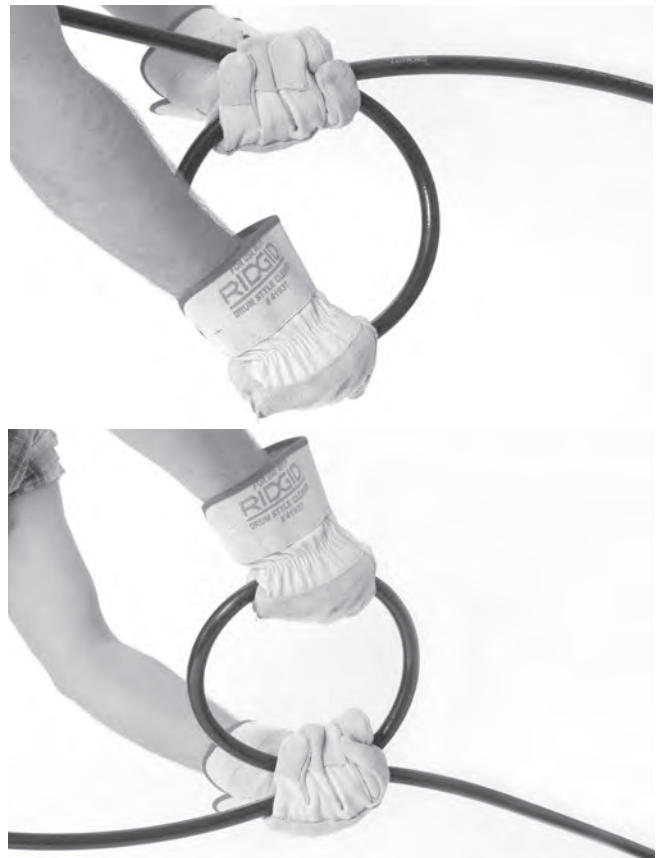

Figure 17 – Rotating the Hose.
- Rotate the hose a quarter to half turn to orient the set of the hose to the direction change (If the hose is rotated, once through the obstruction, turn the hose back to help prevent kinks) See *Figure 17*.